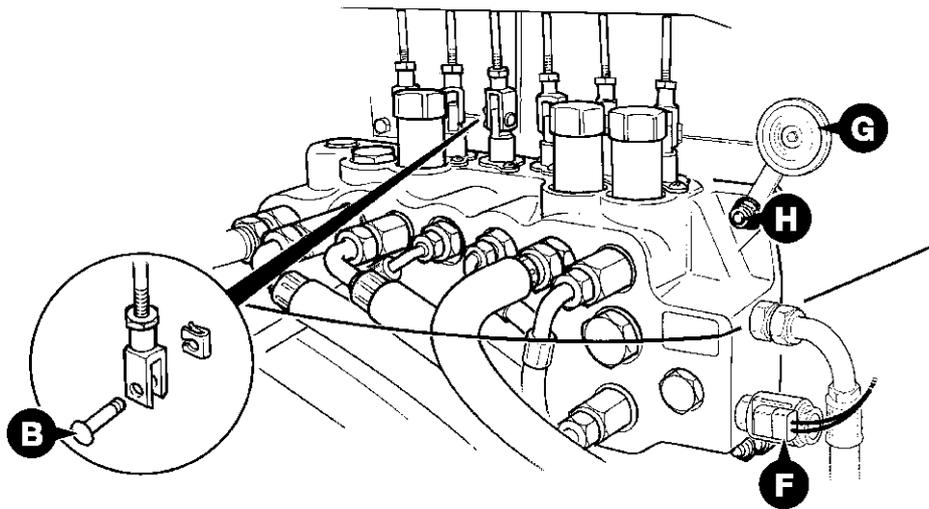

Fig 184.
- 4 Remove clevis pins **B** to disconnect the control levers from the valve block spools, see ⇒ Fig 184. \(□ E-222\).